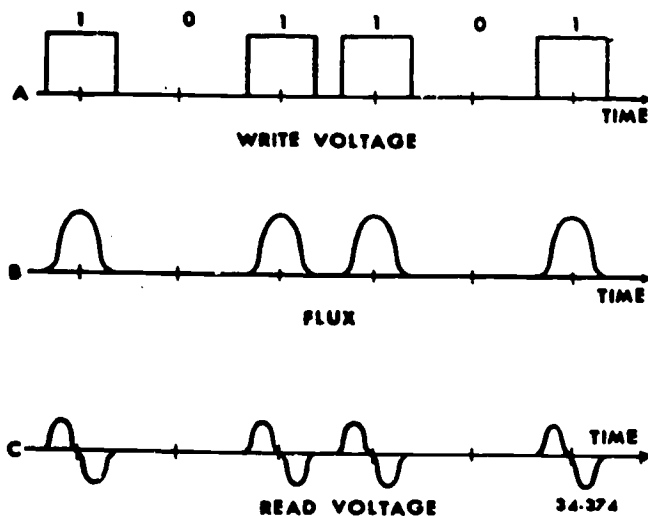

Figure 3-15. Waveform of positive-pulse return-to-zero (RZ) system.
In the *positive-pulse return-to-zero system*, the waveforms of the binary word 101101 appear, as shown in figure 3-15,A, or 3-15,B. This method is abbreviated RZ. The flux slope is positive at the leading edge of the pulse, zero at the top of the pulse, and negative on its trailing edge. During the reading process (fig. 3-15,C), a positive pulse and a negative pulse are induced in the read head each time the flux pulse stored on the magnetic surface passes the airgap.
1. During the reading process, figure 3-15,C, a positive pulse and a negative pulse are induced in the read head each time the flux pulse stored on the magnetic surface passes the airgap. Why?